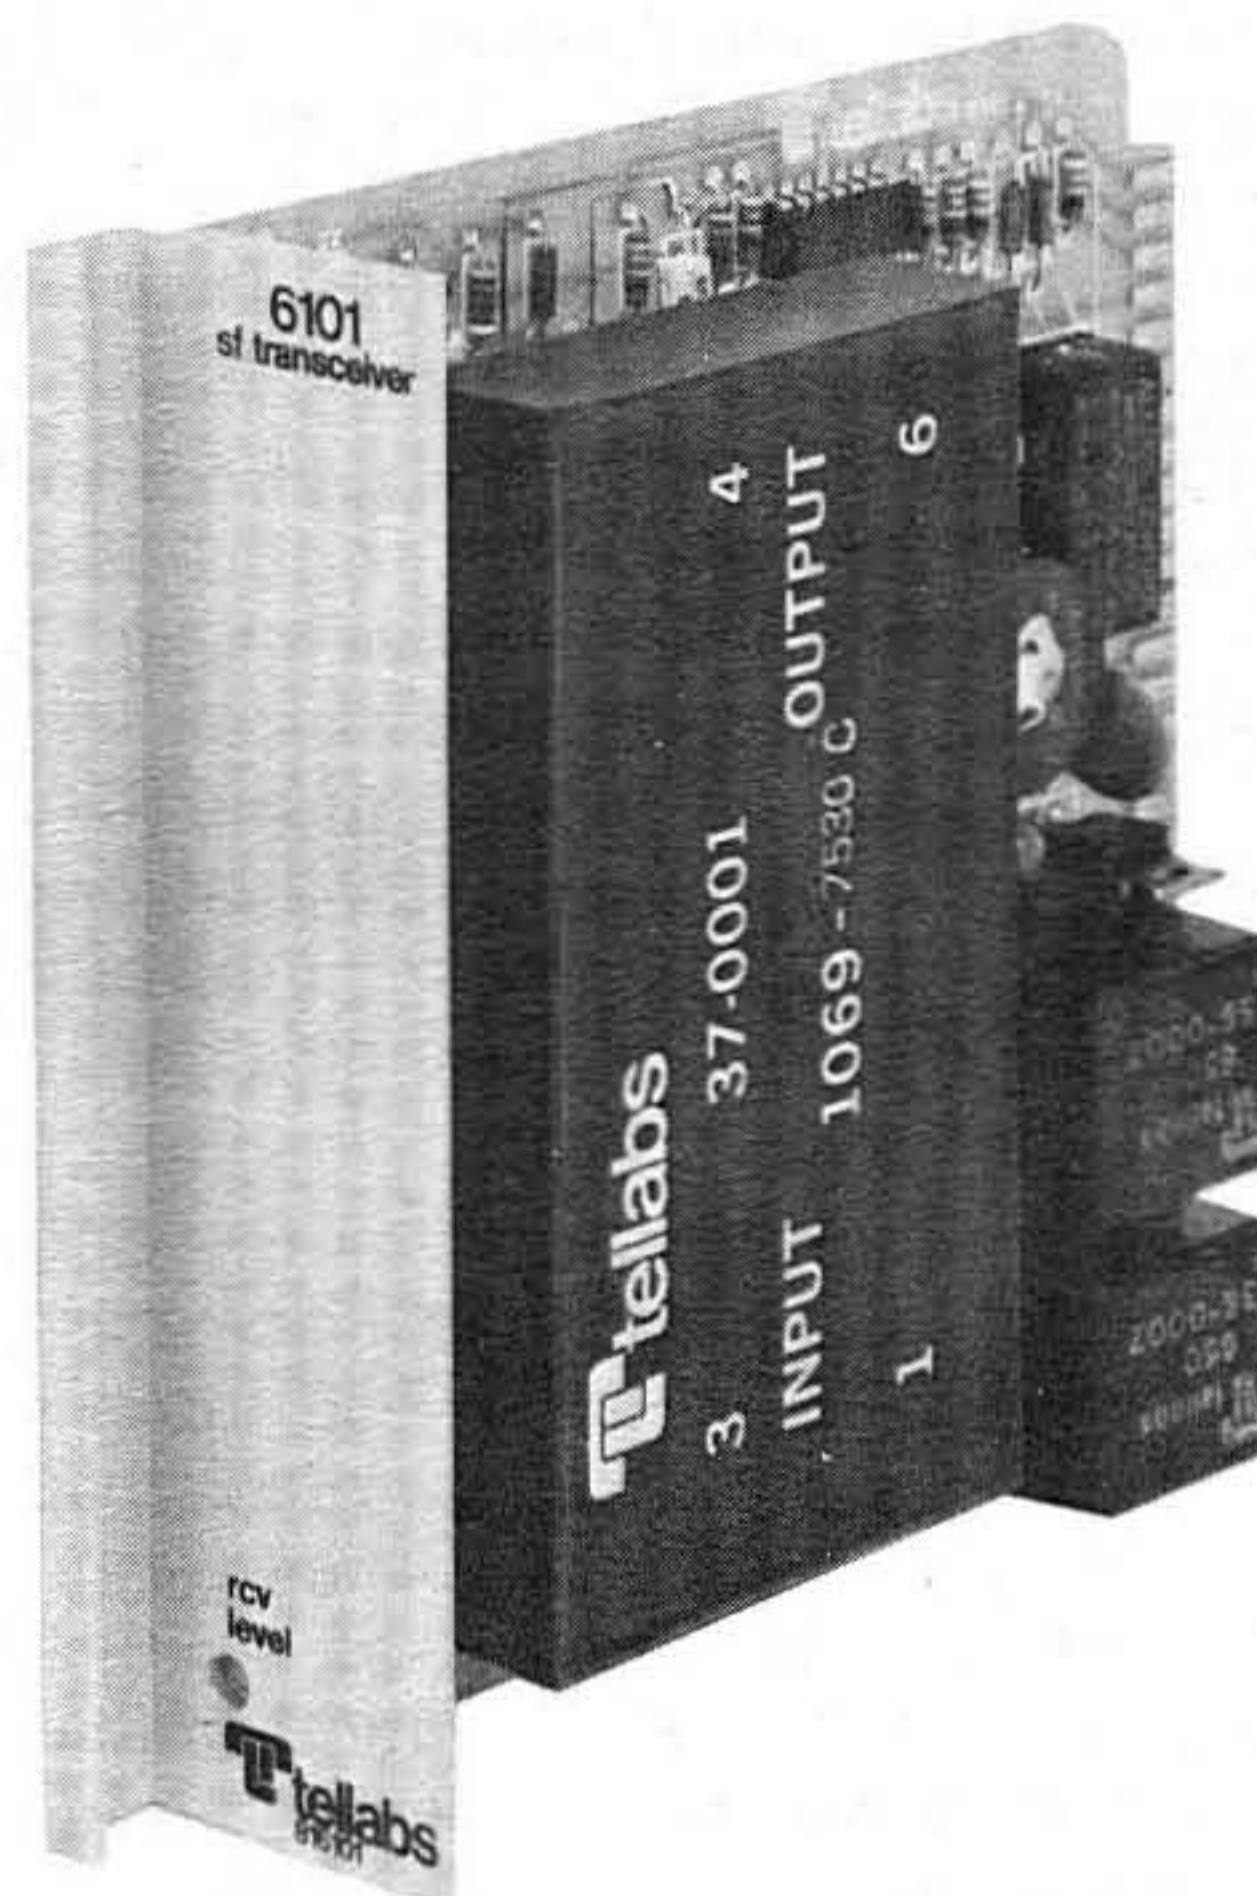

figure 1. 6101 SF Transceiver module
1.01 The 6101 SF Transceiver module (figure 1) provides integral SF tone supply and tone gates for the transmission of SF tone over a 4wire facility. In the receive direction, the 6101 provides SF detection, filtering, level control and timing circuitry for the reception and processing of incoming SF signals.